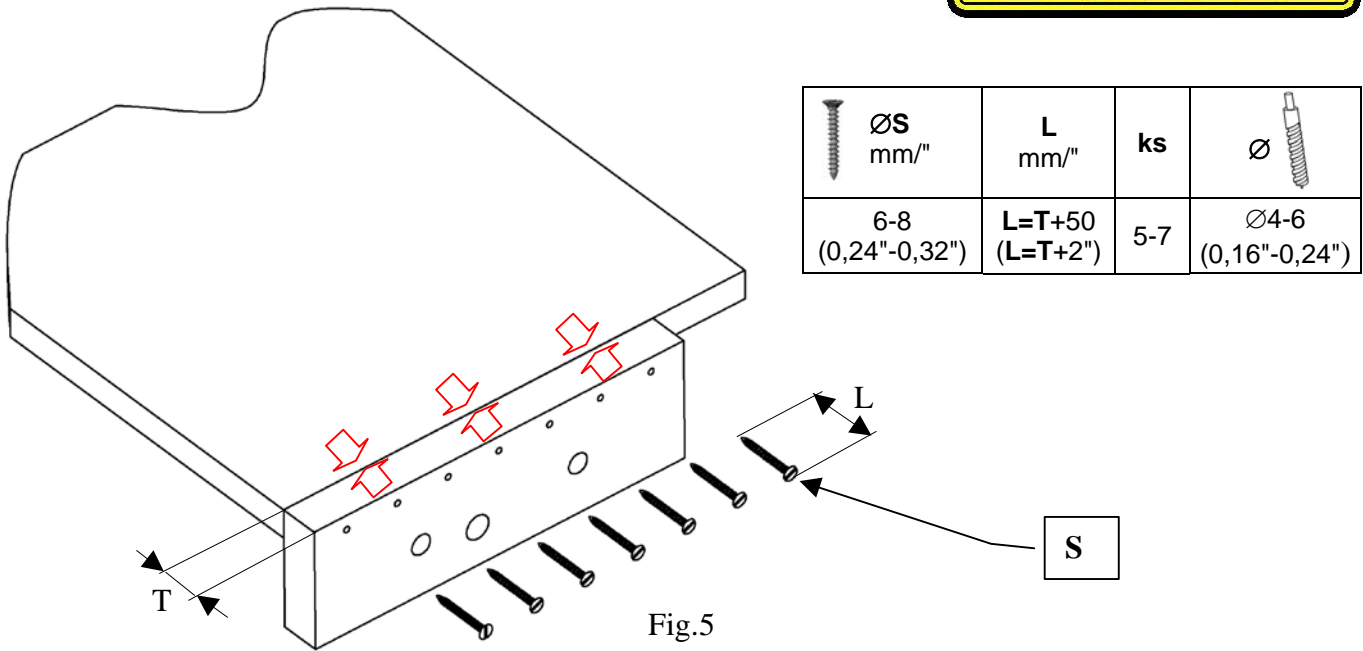

Fig.5
a) If the workbench has no collar and we use an additional rear jaw by fixing it to the relevant position on the front edge of the workbench. The number and size of screws must be adequate to the additional rear jaw size. The presumed number of wood screws is 5-7, \varnothing **6–8mm (0,24"–0,32")**. Fix the rear jaw so that the top edge is flush with the top of the workbench board. If the workbench has a collar, drill holes for the spindle (3) and guide rods (6) directly into the collar. See Fig. 5.